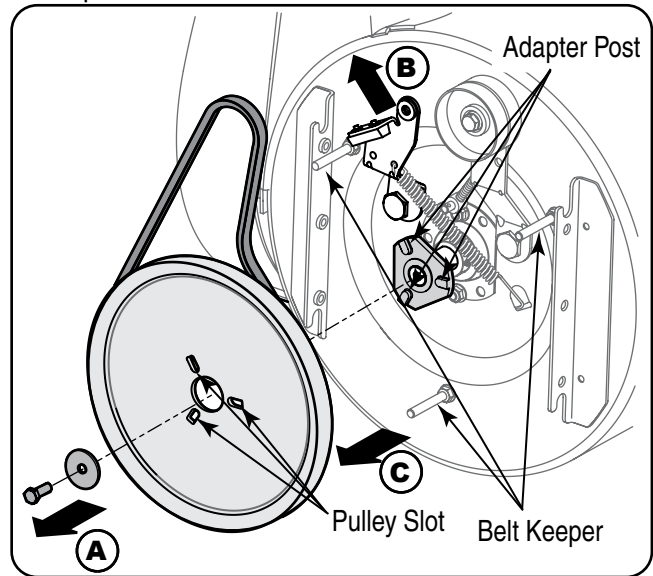

Figure 7-7
6. Block the impeller with a piece of wood to prevent it from spinning and use a 1/2" wrench to remove the hex screw and flat washer from the center of the auger input shaft and auger pulley adapter. Refer to Figure 7-7.
7. Lift the brake bracket assembly out of the pulley groove and slide the pulley assembly off the posts of the auger pulley adapter to remove the old belt. Refer to Figure 7-7.
9. Turn the pulley as necessary to align its three slots approximately with the posts of the pulley adapter, then move the brake bracket assembly away from the input shaft. While aligning the pulley slots and adapter posts, push the auger pulley fully onto the adapter. Refer to Figure 7-7.
NOTE: If the pulley adapter was removed with the pulley, align the splines of the pulley adapter and auger input shaft, and push the pulley and adapter onto the input shaft. Refer to Figure 7-7.